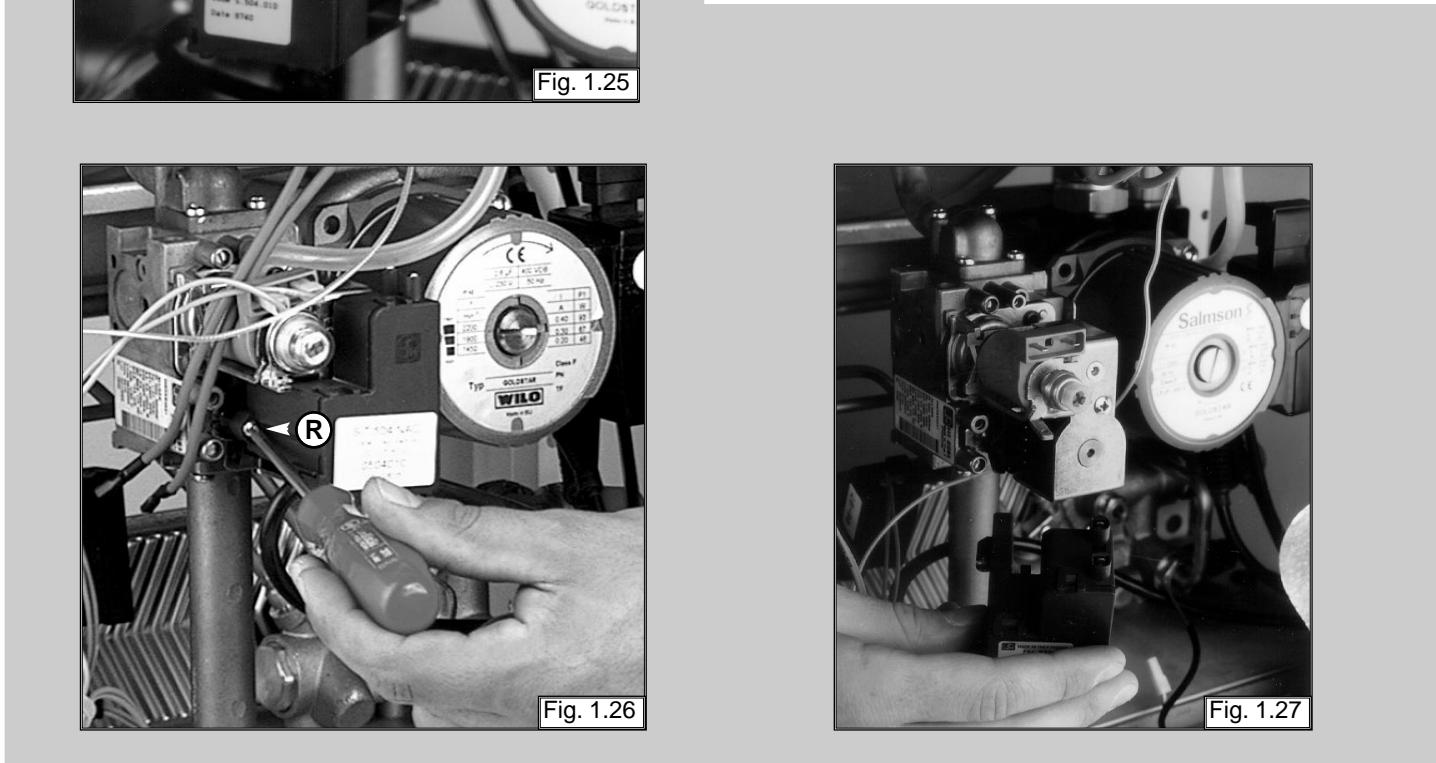

Fig. 1.26
- 2.** Remove the screws "R" (see fig. 1.26) with a Pozidrive No. 2 star tip screwdriver;